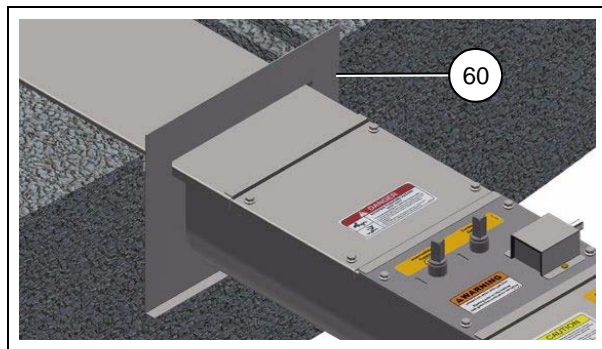

Figure 4J
2. Install the bin wall flange (60) as shown in Figure 4J. Use the concrete screws (not provided) to attach the bin wall flange (60) to the concrete foundation.